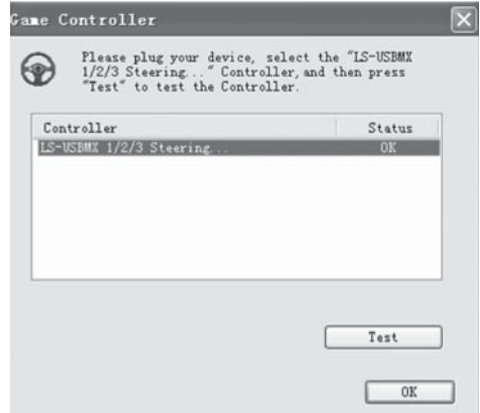
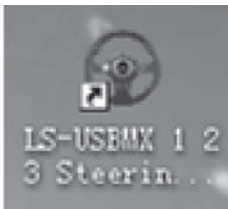
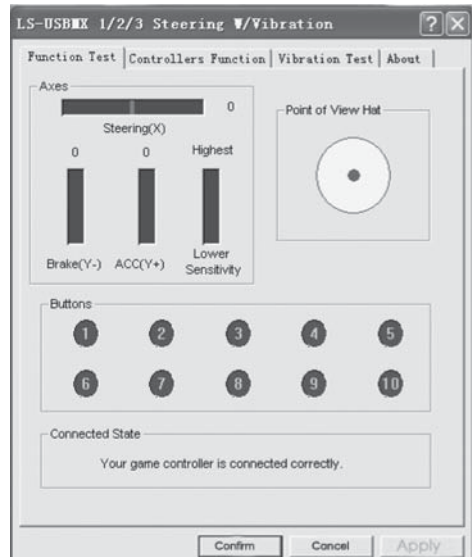

Fig. 5
Fig. 6
Fig. 7
- Insert Software CD disk into the disk drive of your PC and launch setup.exe to install drivers on your PC. There should automatically appear Game Controller window on Desktop of your PC (Fig. 5). Also, there will open up icon LS-USBMX 1 2 3 Steerin... (Fig. 6) which is convenient for further adjustments.
- Press Test (Fig. 5), and on the display of your PC there will appear LS- USBMX 1/2/3 Steering window (Fig. 7). Here you can make main settings of axes and keys.